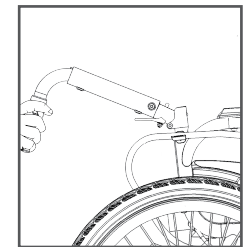
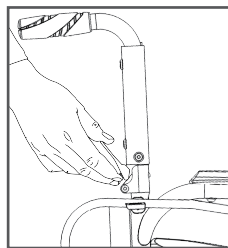

Figure 7
Figure 8
- Use of the backrest folding mechanism: hold the handle with both hands, lift up the backrest tube in a clockwise direction until the eject pin of the backrest folding device snaps into the eject pin hole, see Figure 7; pack up: press the buckle of the backrest folding device with your fingers, hold the backrest folding device with both hands. Fold it up in a counterclockwise direction after confirming that the eject pin has left the eject pin hole, see Figure 8.